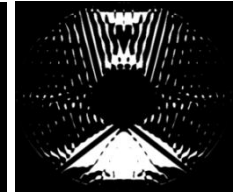

Figure 4. Reflective and absorptive SP mask
- Shaped Pupil masks with black silicon structures in reflective aluminum background (Fig 4)